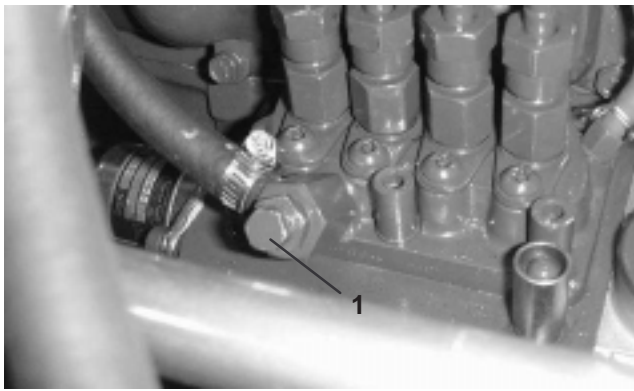

Figure 28
5. Open the air bleed screw on the fuel injection pump (Fig. 28).